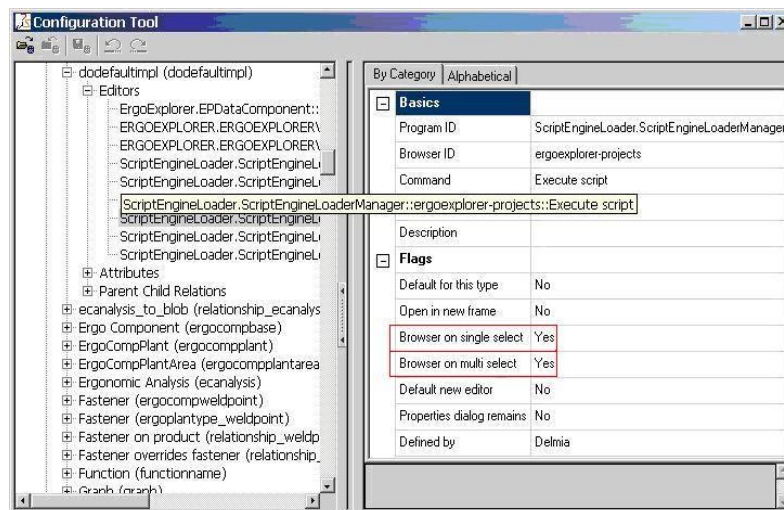

Figure 108: Display a Contextual Menu Entry
- 3) Set both entries to **Single selection in the browser** and **Multiple selection in the browser** to **Yes**. Please refer to the Figure 108.